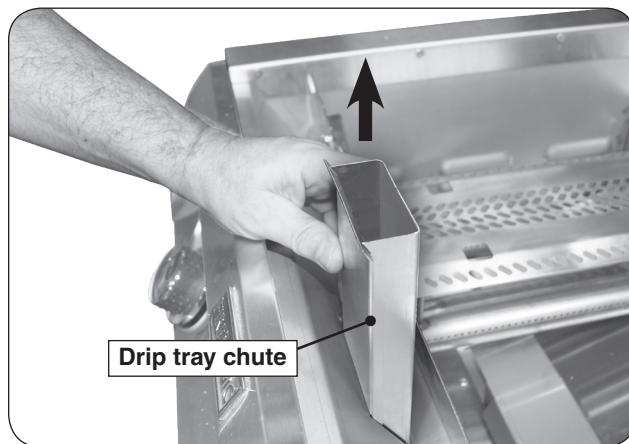

Fig. 33-2 Drip tray chute removal
2. Remove the drip tray chute by pulling it upward (see Fig. 33-2).